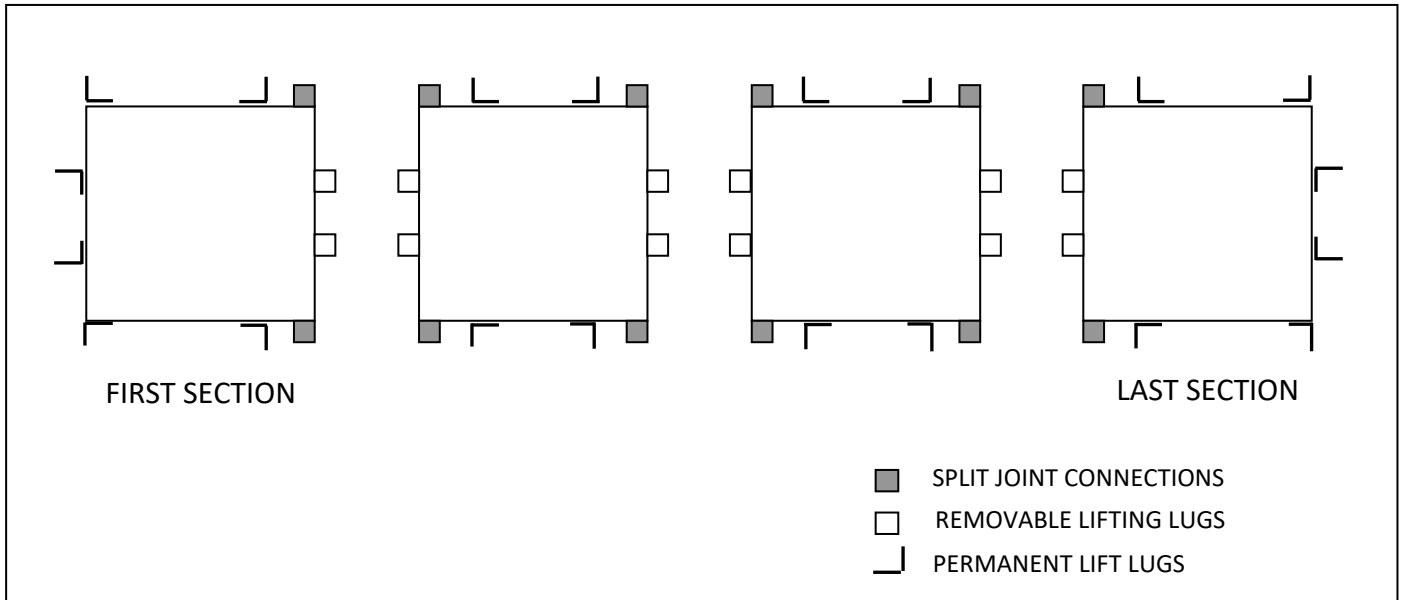

FIGURE 1
3. Once the first piece is set in place, remove any “removable” lifting lugs (if supplied) from the base channel (see Figure 1).
5. Remove all “removable” lifting lugs (if supplied) from the base channel of this section (see Figure 1).